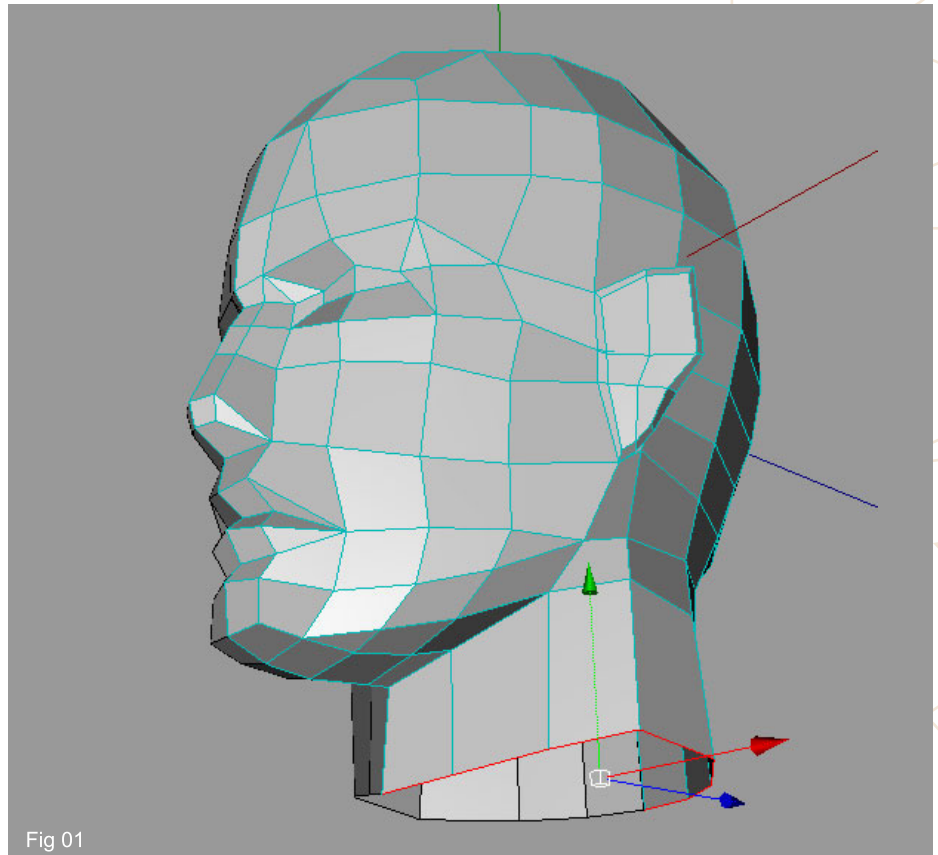

Fig 01
1. Open the file of the head and begin by selecting the bottom row of edges as shown in Fig01. Extrude the edges, then right click and choose Extrude from the menu. Remember that we still have the Symmetry on the object so check that all middle points are on the coordinate $X = 0:00$.